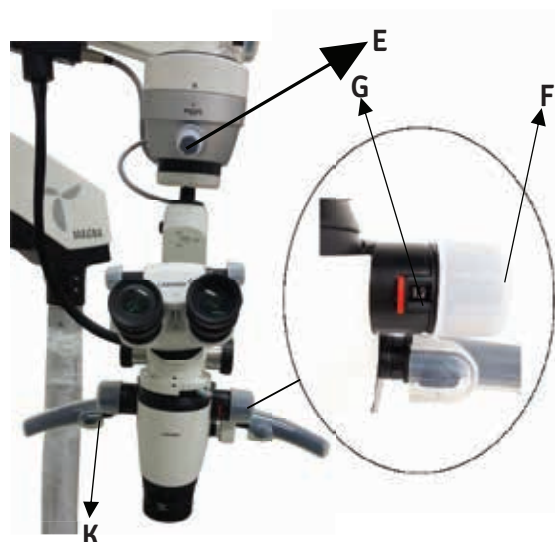

Fig. 20
- Use the knobs (F) Fig 20 provided on the Magnichanger to select the desired magnification level.
- Refer Fig. 20 Pressing the Red click button (G) located besides the Magnification indicator will select the 8 step magnification. Pressing the same Red click button from reverse side to select the magnification in continuous zoom.